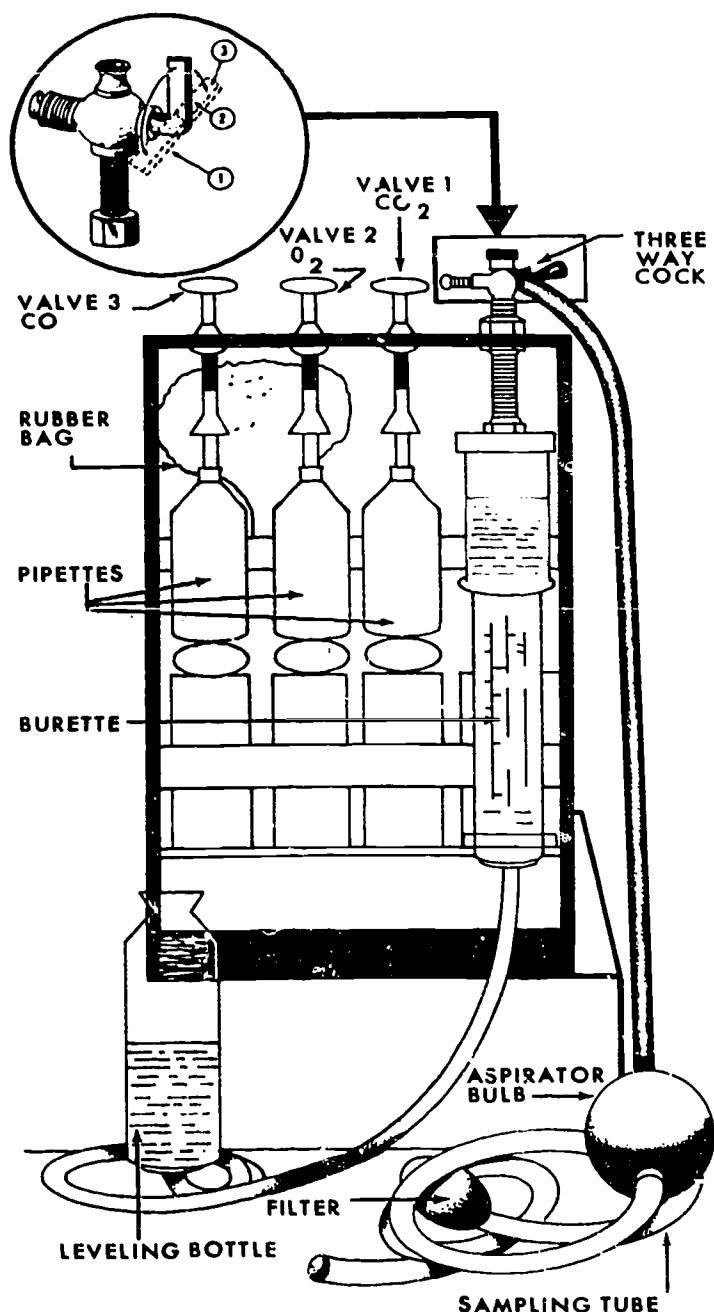

Figure 3-1. Orsat Flue Gas Analyzer
Orsat Flue Gas Analyzer (Figure 3-1)
Operating Principle. This instrument operates on the volumetric measurement and chemical absorption in the same manner as the installed absorption CO_2 analyzer. The advantage with this instrument is the fact that it is portable and has the capability to measure amounts of carbon dioxide (CO_2), carbon monoxide (CO), and oxygen (O) with one flue gas sample by following established procedures. Figure 3-1 illustrates the Orsat and its basic components.